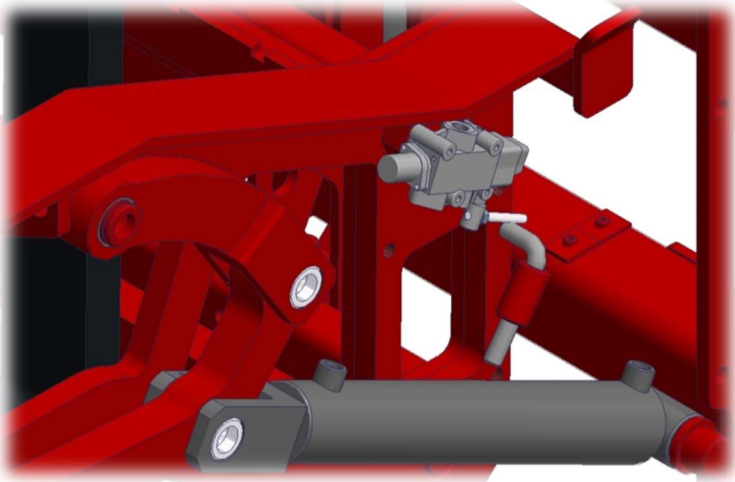

Figure 3.2.1-Hydraulic limit switch
2. Loosen the adjusting tube bolt and locknut. See figure 3.2.1.